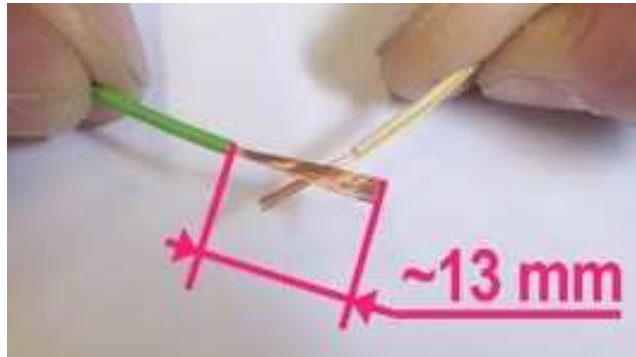

Fig. 6
- Strip about 13 mm (1/2 in) of the new piece of wire with the ring terminal and the corresponding wire in the wiring, as shown in (Fig. 6) .